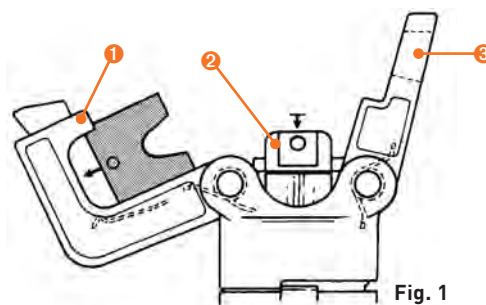

Fig. 1
With reference to **Figures 1 and 2**, select a pair of matrixes suitable to the type of contact and insert them in the housings: one in the matrix support (21), the other one in the matrix pusher support ②. (NB: the two matrixes of each pair are the same).